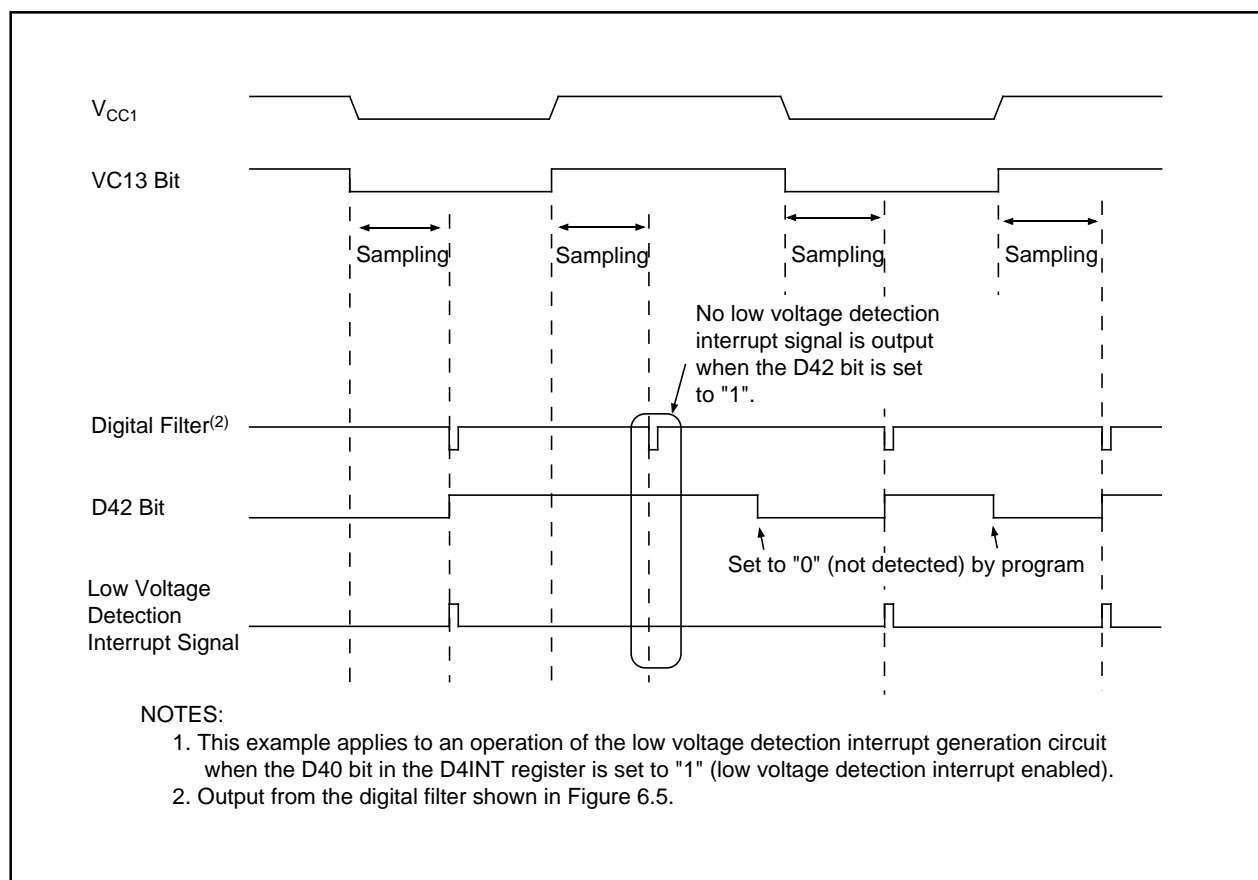

Figure 6.6 Low Voltage Detection Interrupt Generation Circuit Operation Example
3. Sampling begins after the VC13 bit setting changes. An interrupt request is generated after sampling is completed. See Figure 6.6 for details.